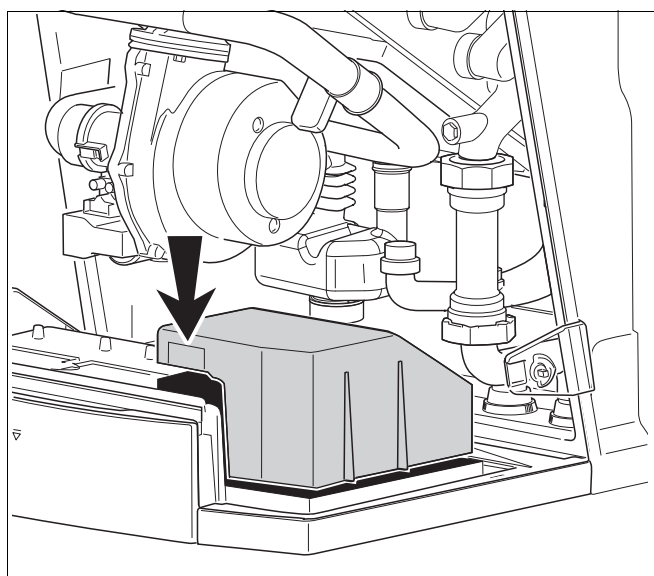

fig. 51 Installing the cover of the connection box
- Fit the cover on the connection box (see fig. 51).